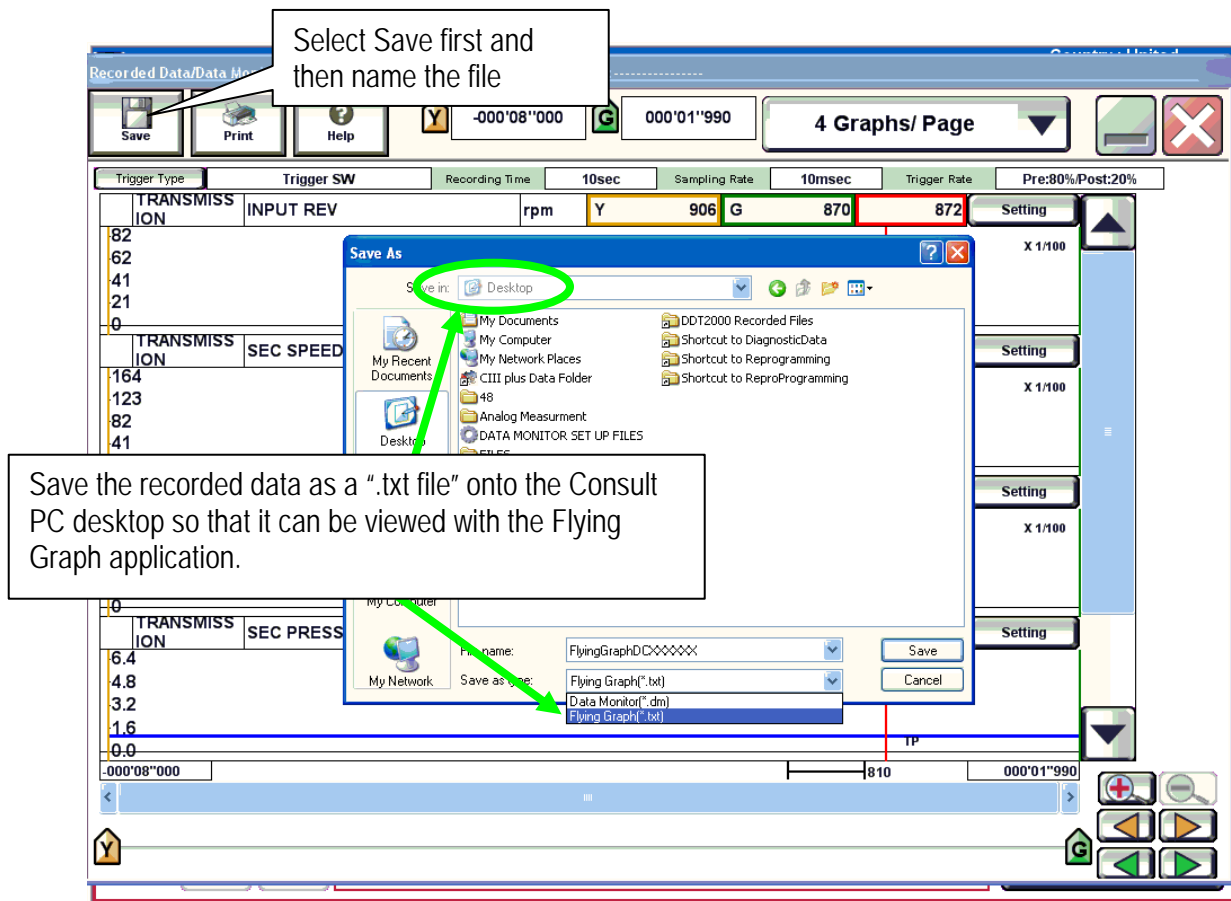

Figure 11
9. After the C-III plus data has been recorded with **DATA MONITOR**, save the data file as "**FlyingGraph(last 8 of VIN).txt file**" (example: FlyingGraphEM123456.txt file) onto the Consult PC desktop as shown in Figure 11.
- Data files must be saved as ".txt file" type before it can be used with the Flying Graph application. Refer to Figure 11 below for example.